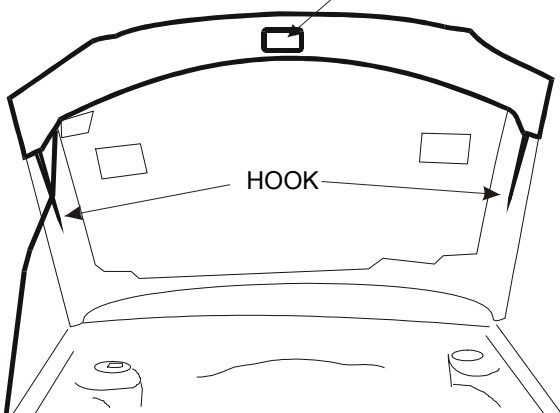
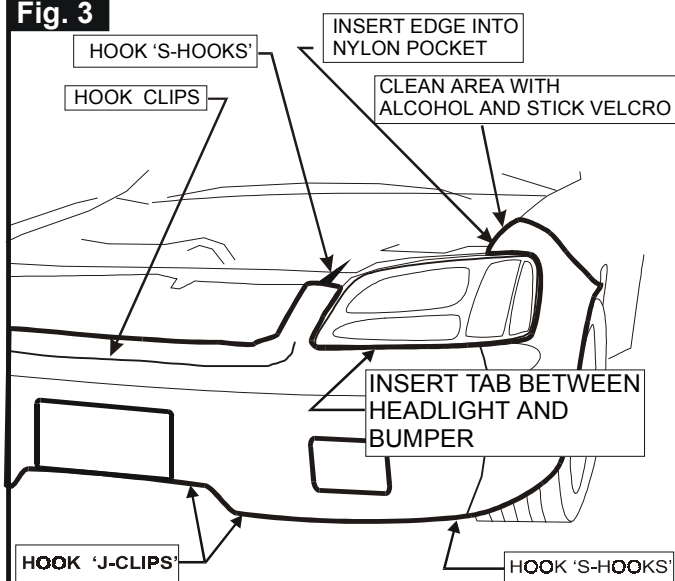

Fig. 3
Fig. 4
3. Raise the hood again and take out the bumper cover. Unfold the cover and hold it upright. Hold the cover at the top center in an upright position and place this on the bumper. Smooth it out to follow the shape of the bumper. If done correctly, the edge of the cover will end exactly at the fender wheel openings (Fig. 4). Adjust if needed. Make sure it fits properly into place.
4. Insert the covered plastic strips between the headlights and the bumper (Fig. 3). Hook the top edge of the cover to the bumper's top edge. Hook the J-clips to the fenderwells (Fig. 4) and the bumper's bottom edges (Fig. 3) making sure the cover stays in place. Insert the pointed edge of the fender into the nylon inside pocket just above the marker/signal lights (Fig. 3). Pull the flap over the fender and note the position of the Velcro on the inside wall of the fender. Clean the area with alcohol, peel off the protective backing, and adhere the adhesive backed Velcro at this location. Repeat the procedure for the other side.